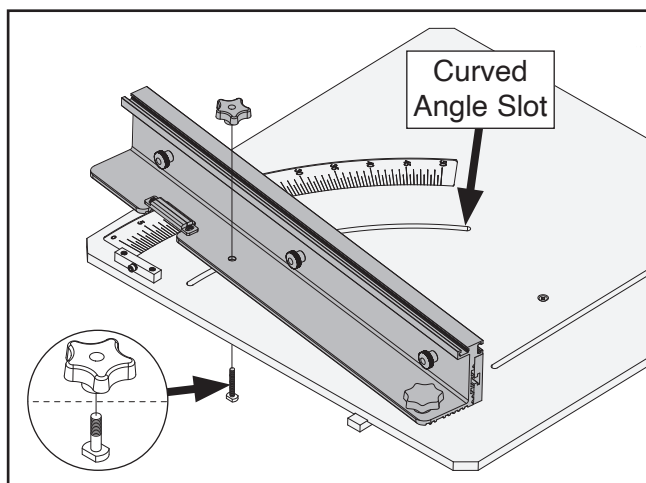

Figure 8. Securing fence to sled.
10. Insert $\frac{5}{16}$ "-18 x $1\frac{1}{2}$ " T-bolt up through curved angle slot in sled and hole in fence, then secure fence to sled by loosely threading $\frac{5}{16}$ "-18 knob onto bolt (see **Figure 8**).